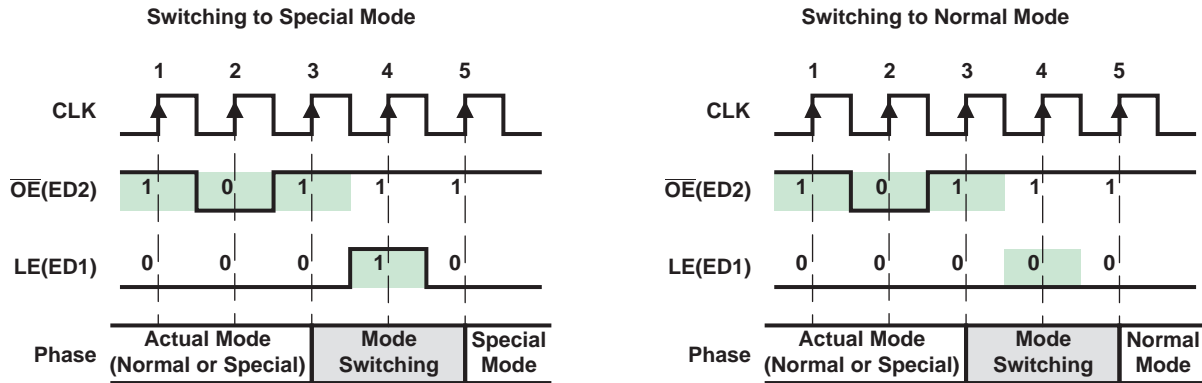

Figure 16. Mode Switching
To switch between its two modes, TLC591x monitors the signal $\overline{OE}(ED2)$. When an one-clock-wide pulse of $\overline{OE}(ED2)$ appears, TLC591x enters the two-clock-period transition phase, the Mode Switching phase. After power on, the default operation mode is the Normal Mode (see Figure 16).
As shown in Figure 16, once a one-clock-wide short pulse (101) of $\overline{OE}(ED2)$ appears, TLC591x enters the Mode Switching phase. At the fourth rising edge of CLK, if $LE(ED1)$ is sampled as voltage high, TLC591x switches to Special Mode; otherwise, it switches to Normal Mode. The signal $LE(ED1)$ between the third and the fifth rising edges of CLK cannot latch any data. Its level is used only to determine into which mode to switch. However, the short pulse of $\overline{OE}(ED2)$ can still enable the output ports. During mode switching, the serial data can still be transferred through SDI and shifted out from SDO.